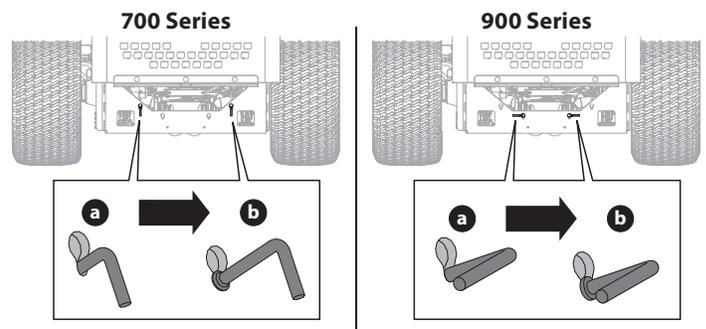

Figure 3
1. To engage the transmission bypass rods, pull the rod (a) up into the larger opening of the key slot, then pull back until the collar on the rod passes through the frame (Figure 3).
2. Lower the rod back into the smaller opening of the key slot, making sure the collar is secured on the outside of the frame (b). Repeat on opposite side (Figure 3).